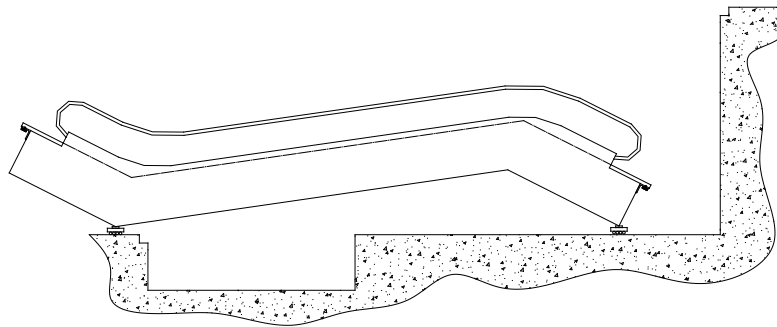

Figure 9 Positioning of the escalator
3.8.1 Move the escalator horizontally to the installation position and hoist it onto the upper and low supporting beams. Refer to Figure 9.